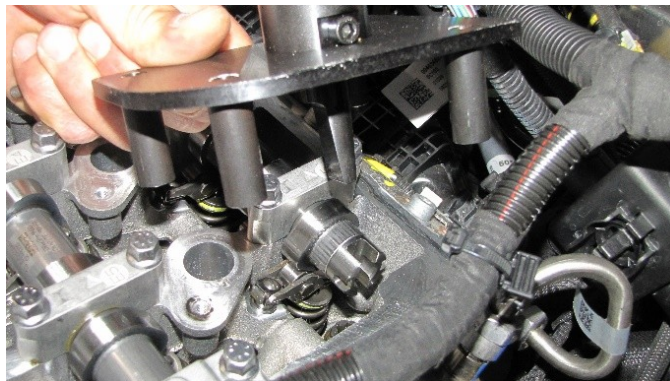
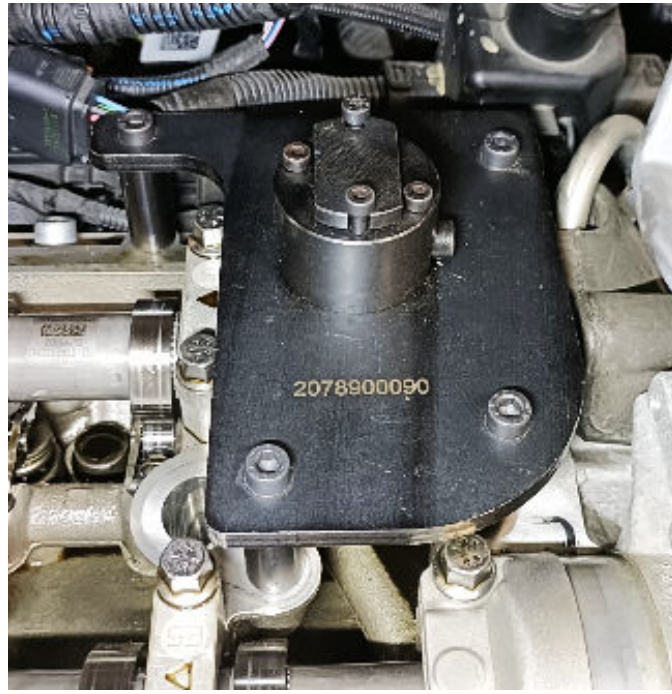

Fig. 4
Fig. 5
12. Use tool **2069100090** to rotate the crankshaft until the special timing chain tool **2078900090** can be fitted to the **INTAKE** camshaft Fig 4 and Fig. 5. Once inserted, fix the screws accordingly.